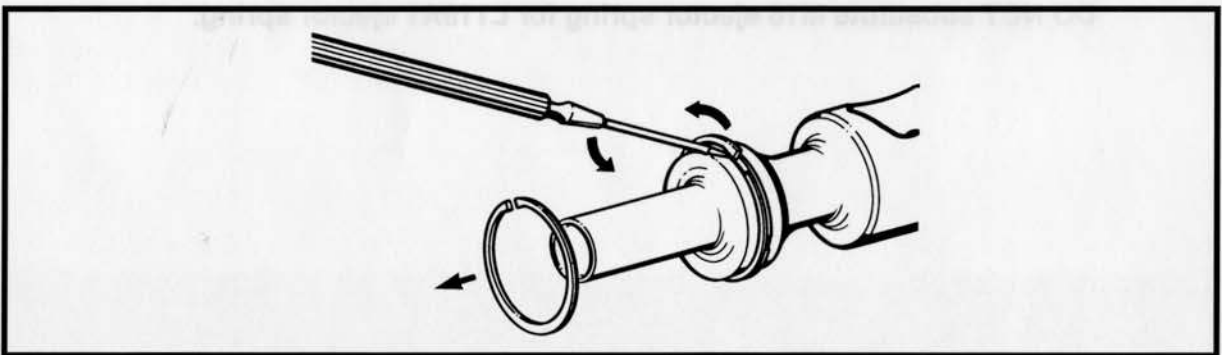

Figure 3-2-34 Removing the Bolt Rings
c. The bolt rings are not removed except for replacement. Replace all three rings if damage or defects exist. In the event that replacement is required, the rings are removed with the tip of the jeweller's screwdriver. See Figure 3-2-34.